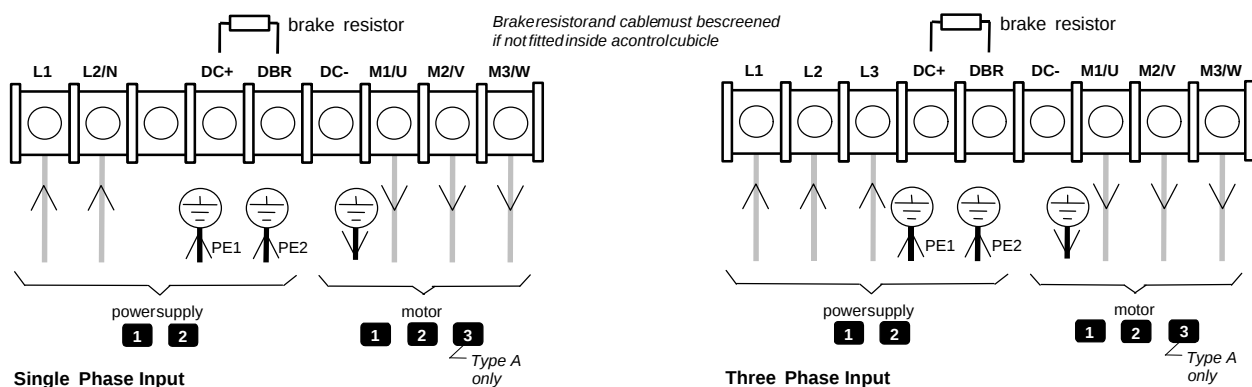

Figure 3-12 Power Wiring and Earth Connections
3. Feed the power supply and motor cables into the inverter through the metal gland plate using the correct cable entries, and connect to the power terminals. Tighten the terminals to a torque of 1.0Nm (9 in.lb). Refer to Figure 3-12 Power Wiring and Earth Connections.